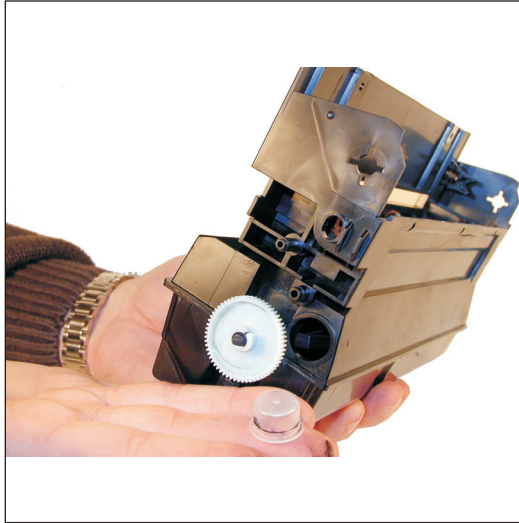

Figure 23
17) Remove the fill plug. See Figure 23